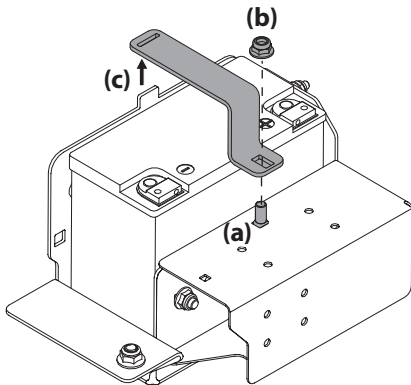

Figure 4
4. Locate and hold the carriage bolt (a) at the front of the battery bracket (c) to prevent it from falling. See Figure 4.
5. Remove the hex lock nut (b) securing the battery bracket (c) in place. Save the carriage bolt and hex lock nut for later reinstallation. See Figure 4.
6. Lift the battery bracket (c) off of the tab at the left side of the battery compartment and save for later reinstallation. See Figure 4.